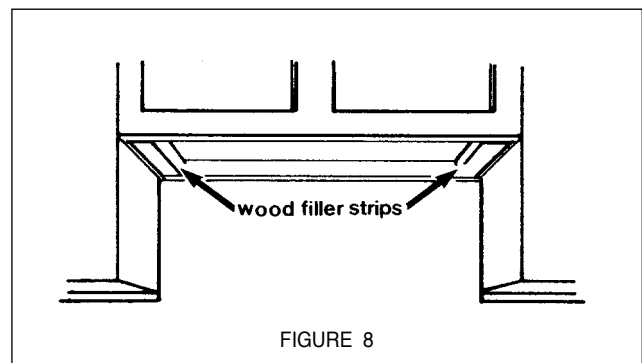

FIGURE 8
3. If the cabinet bottom is recessed, wood filler strips need to be installed to insure proper alignment with the cabinet bottom. Wood filler strips should be flush or recessed 1/16" to 1/8" within the cabinet bottom as indicated in FIGURE 8.